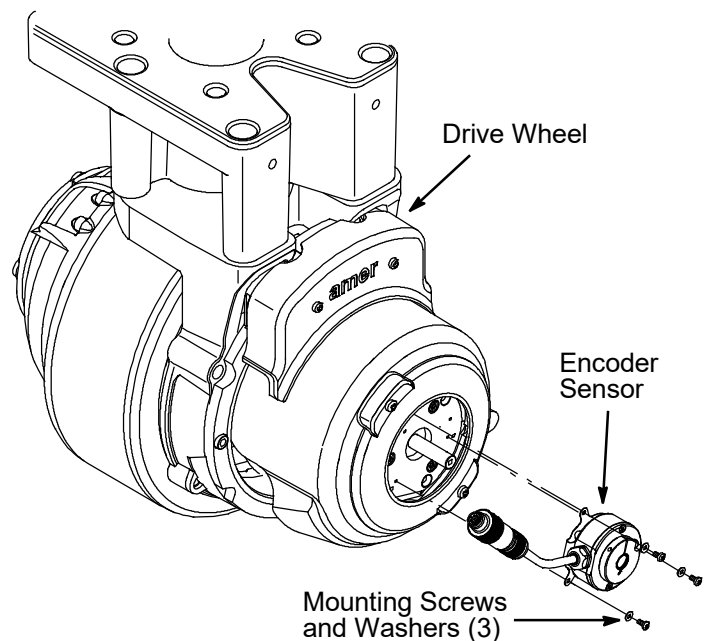

Fig. 2
5. Remove the three mounting screws and discard the defective encoder (Figure 2). Do not misplace the hardware.
6. Install the new encoder sensor on drive wheel (Figure 2). Make sure to re-tighten the hex screw on the shaft (Figure 1). Secure the encoder cable connector as originally positioned.